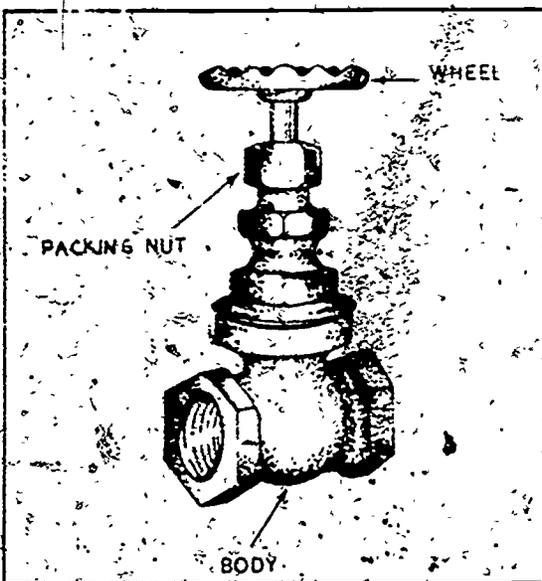

Figure 1-13 Gate valve
*Water Supply system materials.* After the pipe runs and the sizes of the pipes are indicated on the working drawings, the proper sized fittings for connecting the pipes can easily be determined. The selection of valves for controlling the flow through the system presents a more complex problem. A well planned plumbing system has valves located throughout the system for controlling the flow. The risers or pipes that are concealed in the walls or floors should be equipped with shutoff valves for use in emergencies or while repairing the pipes. The gate valve, shown in figure 1-13, is used whenever a positive cutoff is desired. These valves are designed for use in systems where they are fully open or fully closed. Gate valves are never used to throttle the flow in a line. If they were used for throttling, the gate disc would chatter and soon wear until it would not stop the flow when seated.